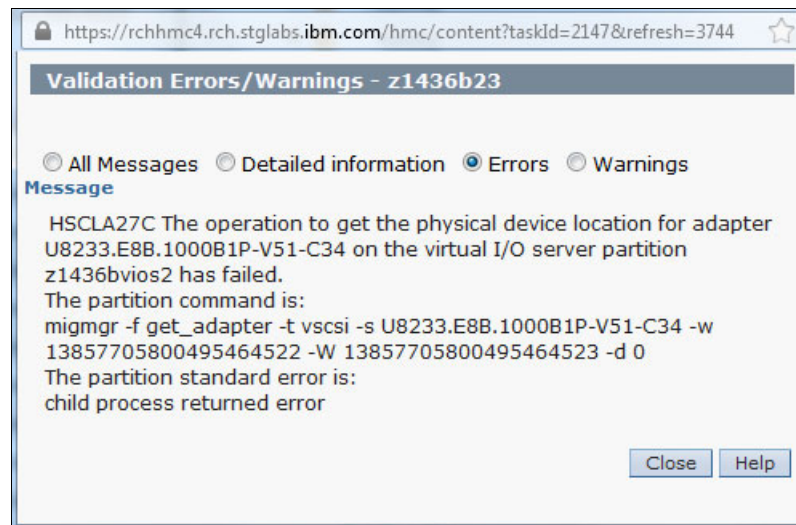

Figure 5-22 Live Partition Mobility error message for physical device location not found
- ▶ If you mapped two virtual Fibre Channel adapters to one physical port for the LPAR on the source system, the error message that is shown in Figure 5-22 is displayed. The same error message appears if the Live Partition Mobility operation results in a setup on the target system where two virtual Fibre Channel adapters are mapped to one physical port.